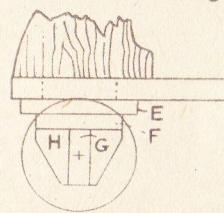

Fig. 3—Side view of undercarriage parts.
A plan of the toy is given in Fig. 1, and some measurements are included which will help in the assembly. In Fig. 3 we see a side view showing the position of the various pieces in conjunction with the plan view. The piece (A), forming as it were the foundation piece, will first be marked and cut. It is a plain oblong measuring 16ins. by 4ins. by $\frac{1}{2}$ in. thick, and at the front end a mortise will be cut in it 2 $\frac{1}{2}$ ins. long by $\frac{1}{2}$ in. wide to take the head of the camel.